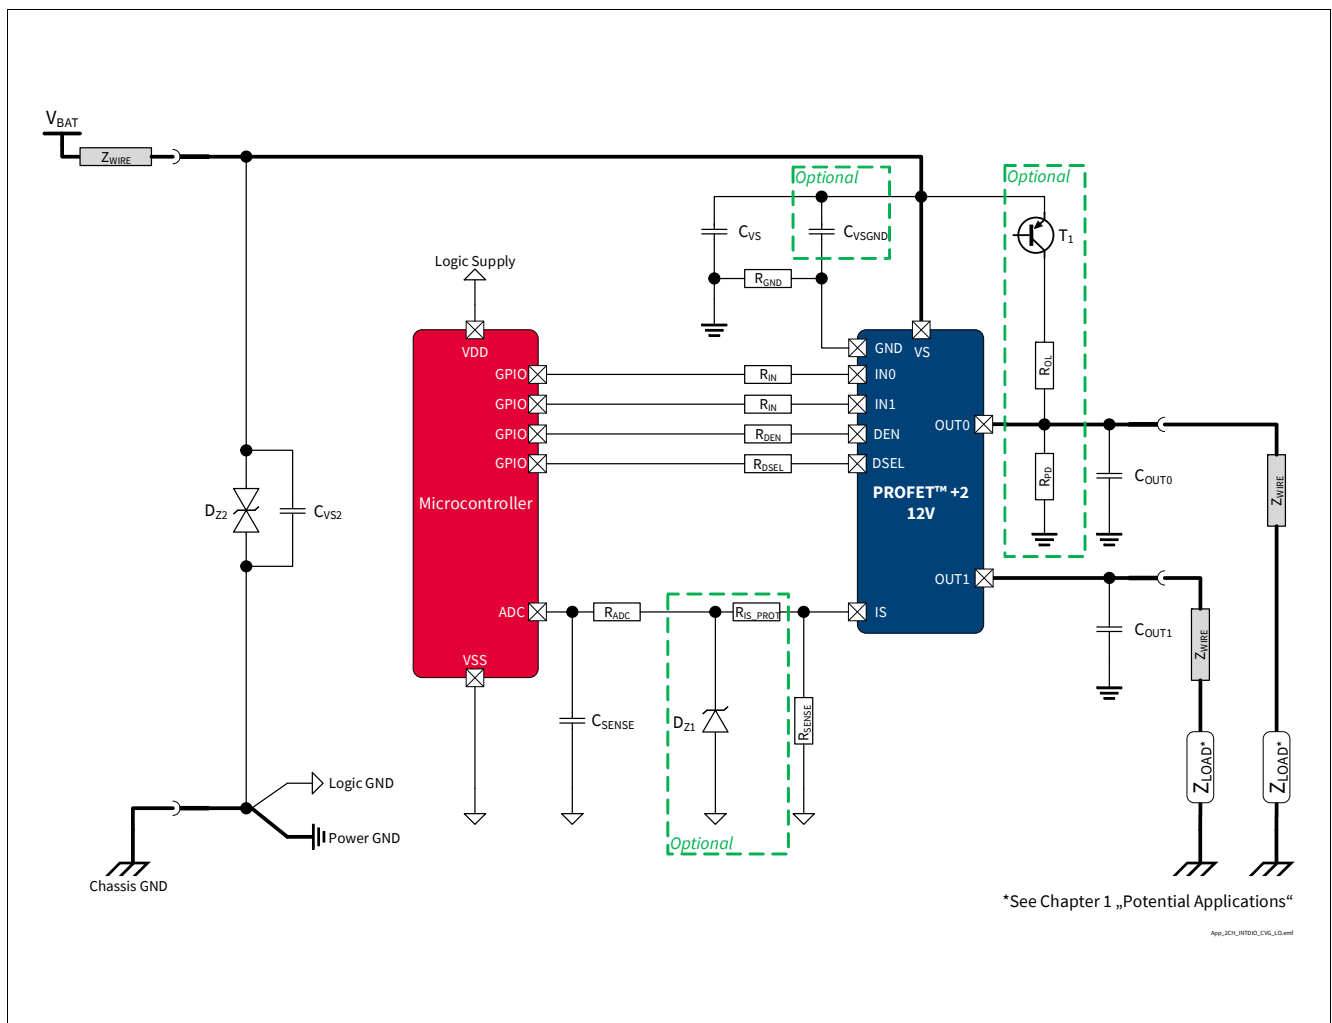

Figure 43 BTS7030-2EPA Application Diagram
1.05, 2019-10-15	<p>P_8.7.5.1, P_8.7.5.7, P_8.7.5.8 updated (added in Note or Test Condition: link to Figure 25)</p> <p>P_7.5.5.4, P_7.5.5.5 updated (added in Note or Test Condition: DEN = “low”; link to Figure 19)</p> <p>P_7.5.5.12 updated (added in Note or Test Condition: see Figure 21; deleted unnecessary space in Symbol: dV_{OUT} / dt → dV_{OUT} / dt)</p> <p>P_8.7.5.6 updated (added in Note or Test Condition: see Figure 26)</p> <p>P_9.7.5.1 updated (added in Note or Test Condition: See Figure 34)</p> <p>P_9.7.5.6 updated (Min./Typ./Max.: -40%/2700/+40% → -27.5%/2675/+27.5%)</p> <p>P_9.7.5.8 updated (Min./Typ./Max.: -35%/2700/+35% → -23.5%/2675/+23.5%)</p> <p>P_9.7.5.9 updated (Min./Typ./Max.: -31%/2700/+31% → -22.0%/2675/+22.0%)</p> <p>P_9.7.5.12 updated (Min./Typ./Max.: -28%/2700/+28% → -21.5%/2675/+21.5%)</p> <p>P_9.7.5.15 updated (Min./Typ./Max.: -16%/2700/+16% → -10.0%/2675/+10.0%)</p> <p>P_9.7.5.18 updated (Min./Typ./Max.: -7%/2700/+7% → -5.5%/2715/+5.5%)</p> <p>P_9.7.5.20 updated (Min./Typ./Max.: -5%/2700/+5% → -3.8%/2715/+3.8%)</p> <p>P_7.5.5.11 updated (added in Note or Test Condition: see Figure 19)</p> <p>Figure 1, Figure 43 updated</p> <p>Chapter 1 updated (or LED equivalent → or equivalent electronic loads (e.g. LED modules))</p> <p>P_4.3.0.7 added</p> <p>Table 24 updated</p> <p>Chapter 5.1 updated (added: see Chapter 10 for the complete application setup overview)</p>